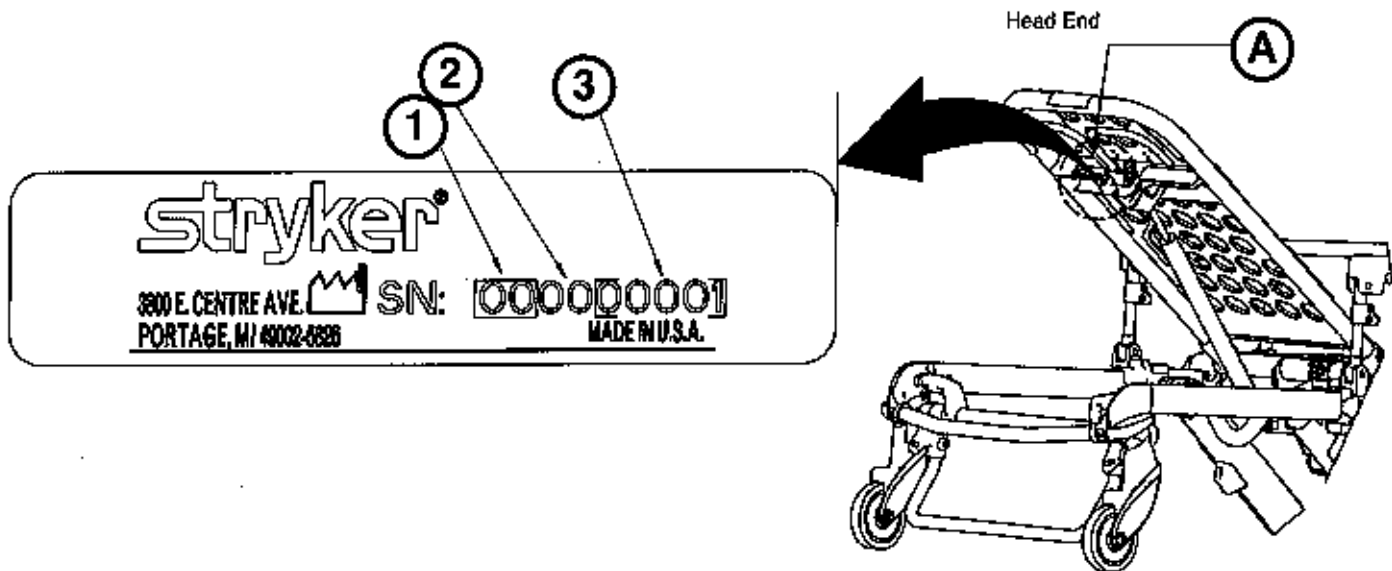

Figure 1
Please have the serial number (A) of your Stryker product available (as shown in Figure 1) when calling Stryker Customer Service or Technical Support. Include the serial number in all written communication.
See Figure 1 and the following key for additional serial number information: